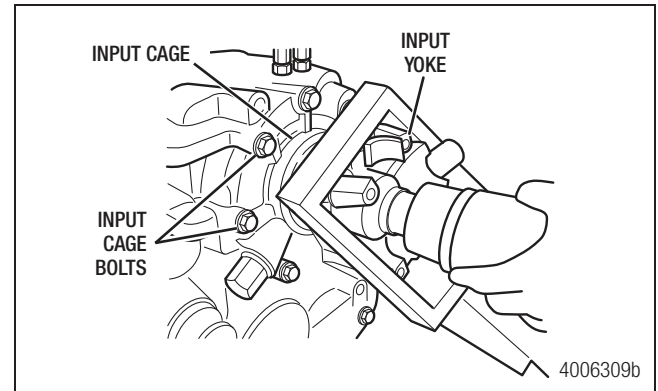

Figure 5.4
- Use a yoke holder to secure the yokes from turning. Remove the yoke lock nuts and washers from the front and rear output shafts. Figure 5.4.
- Use a yoke holder to secure the input yoke from turning. Loosen but do not remove the front input yoke, lock nut, and washer from the front input shaft. The yoke is used to lift the input shaft assembly from the transfer case. Figure 5.4.